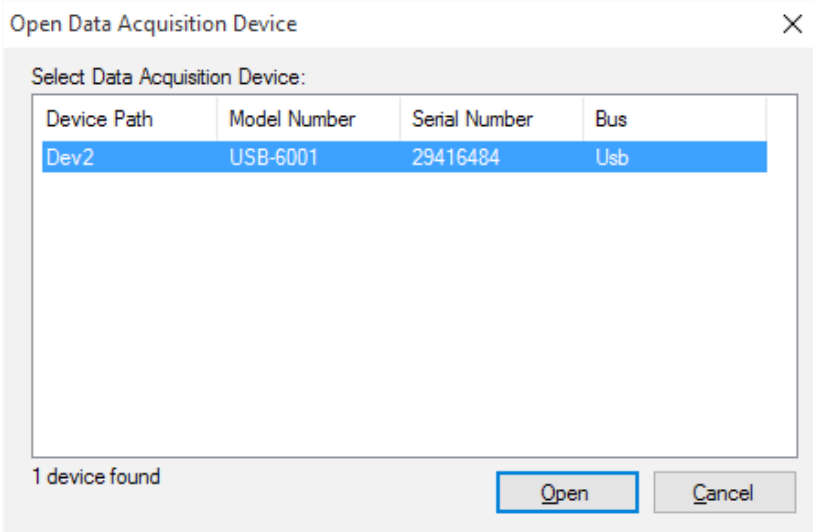

Figure 6. Open Data Acquisition Device Window
- All USB-connected devices appear in the window shown in **Figure 6**. (The current version will show as USB-6001. The prior version as USB-6009.)